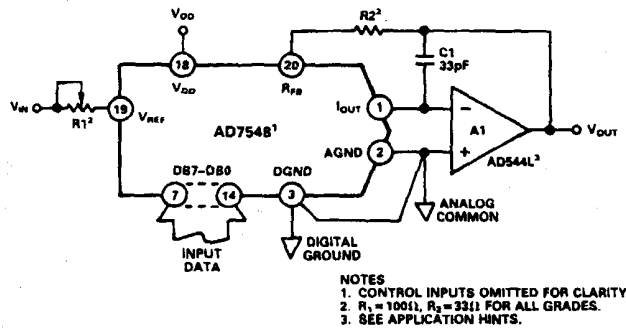
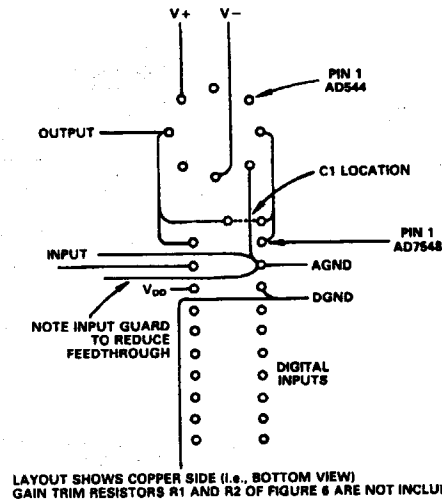

Figure 6. Unipolar Binary Operation
Figure 9. Suggested Layout for AD7548 and Op Amp
The contents of the DAC register can be overridden by pulling  $DF/\overline{DOR}$  (pin 5) LOW. The  $CTRL$  (pin 6) input then determines whether the DAC register data is overridden by all 0s ( $CTRL$  LOW) or all 1s ( $CTRL$  HIGH). This feature allows the user to calibrate the AD7548 in-circuits such as Figure 6 without calling on the microprocessor to load calibration data.
Figure 6 shows the analog circuit connections required for unipolar binary operation. With a dc input voltage or current (positive or negative polarity) applied at pin 19, the circuit is a unipolar D/A converter. With an ac input voltage the circuit provides 2-quadrant multiplication (digitally controlled attenuation).
Table I shows the code relationship for the circuit of Figure 6.
Table I. Unipolar Binary Code Table for Circuit of Figure 6
**Output Offset:** CMOS D/A converters in circuits such as Figures 6 and 7 exhibit a code dependent output resistance which in turn cause a code dependent amplifier noise gain. The effect is a code dependent differential nonlinearity term at the amplifier output which, depends on  $V_{OS}$  where  $V_{OS}$  is the amplifier input offset voltage. To maintain monotonic operation it is recommended that  $V_{OS}$  be no greater than  $(25 \times 10^{-6})(V_{REF})$  over the temperature range of operation. Suitable op amps are AD517L and AD544L. The AD517L is best suited for fixed reference applications with low bandwidth requirements: it has extremely low offset ( $50\mu V$ ) and in most applications will not require an offset trim. The AD544L has a much wider bandwidth and higher slew rate and is recommended for multiplying and other applications requiring fast settling. An offset trim on the AD544L may be necessary in some circuits.
**Feedthrough:** The dynamic performance of the AD7548 will depend upon the gain and phase stability of the output amplifier, together with the optimum choice of PC board layout and decoupling components. A suggested printed circuit layout for Figure 6 is shown in Figure 9 which minimizes feedthrough from  $V_{REF}$  to the output in multiplying applications.